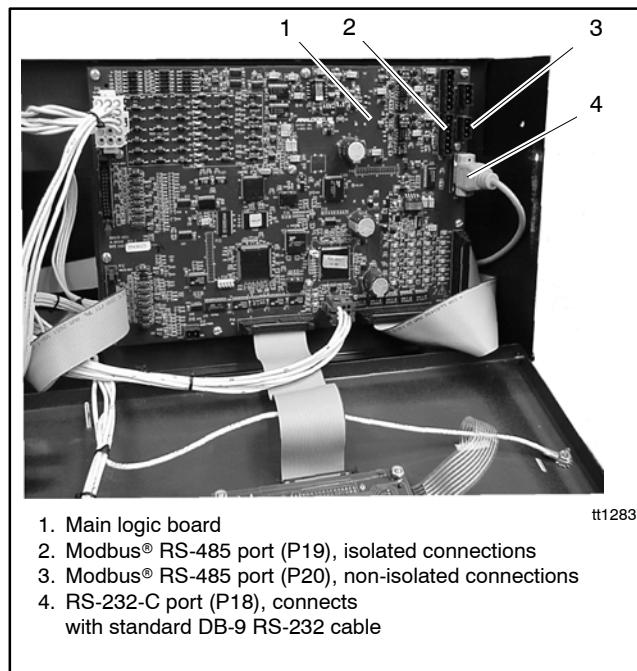
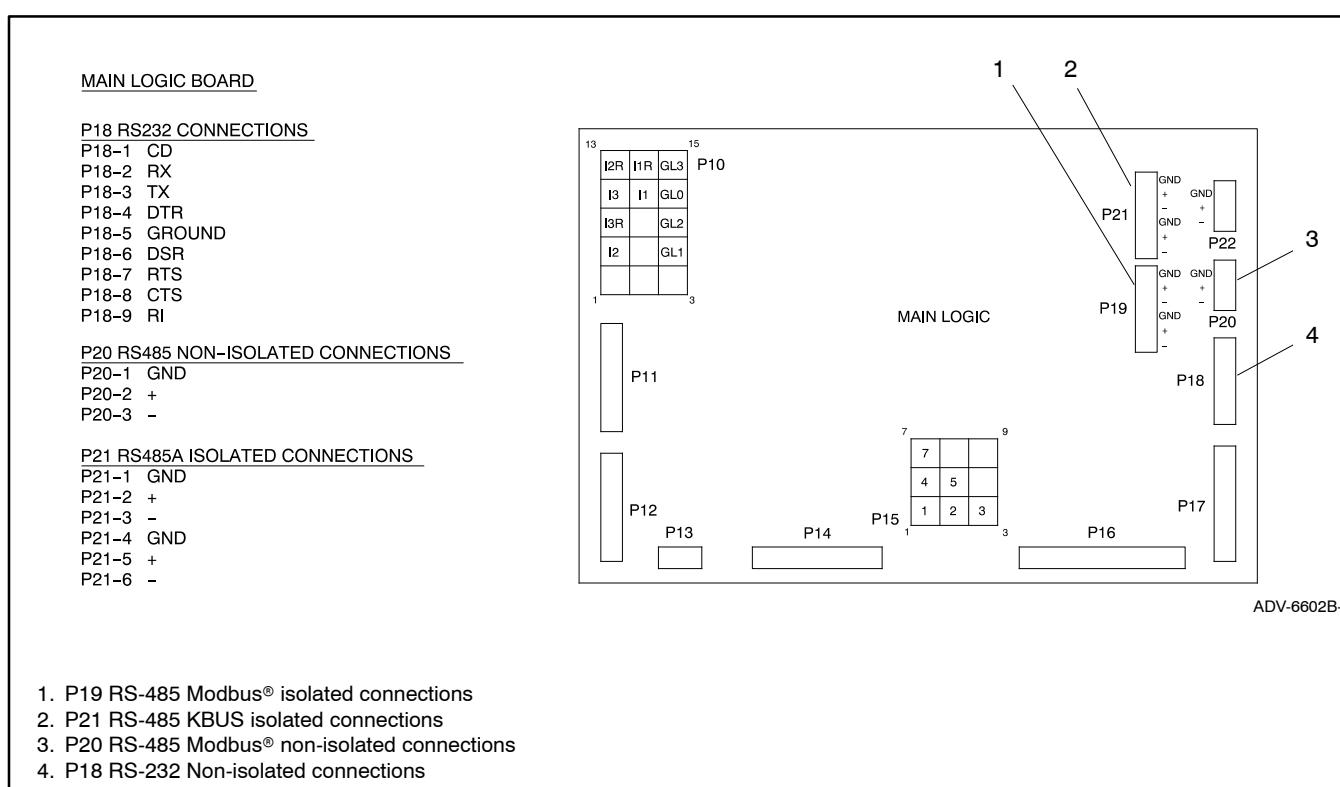

Figure 5-3 Communication Port Locations for Decision-Maker™ 550 Generator Set Controller
Figure 5-4 Communication Connections Pin Identification
5. Open the enclosure and locate the connection ports as shown in Figure 5-3 and Figure 5-4.